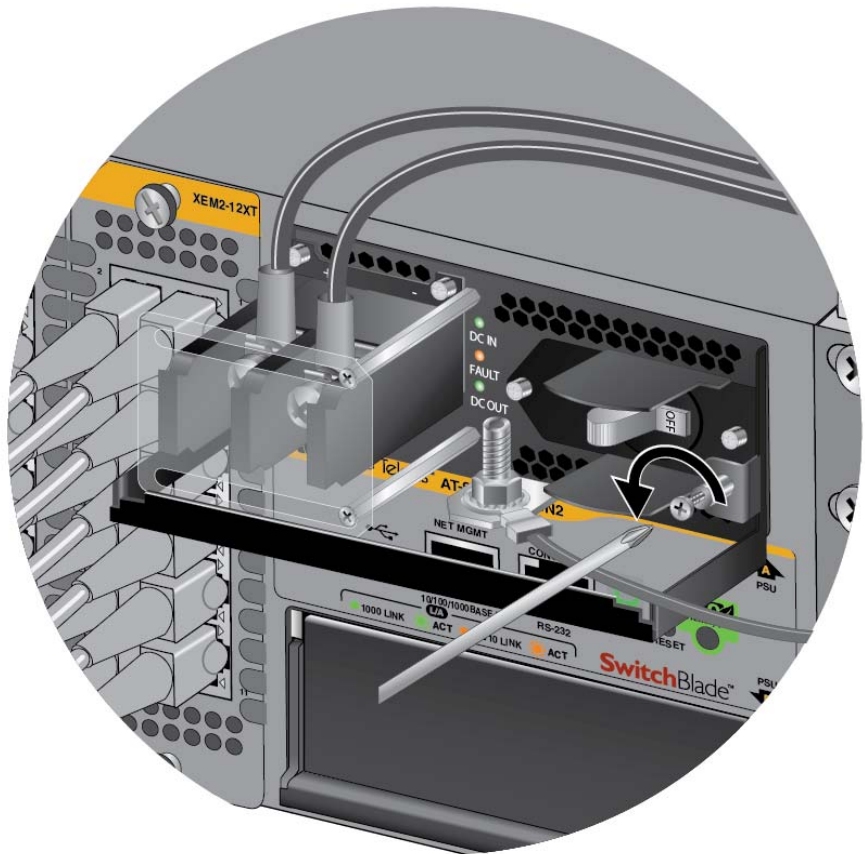

Figure 107. Loosening the Screw on the Locking Handle
3. Use a #2 screwdriver to loosen the screw on the locking handle. Refer to Figure 107.